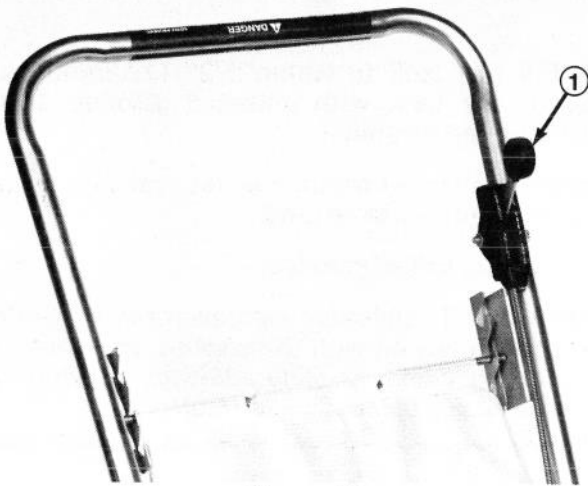

Figure 10
**Throttle Control** (Fig. 10) — The throttle control is used to stop the engine. The speed of the blade is also controlled by the movement of the throttle. Moving throttle forward increases engine speed and moving it backward decreases engine speed. When control is in position III, engine will run at maximum rpm.